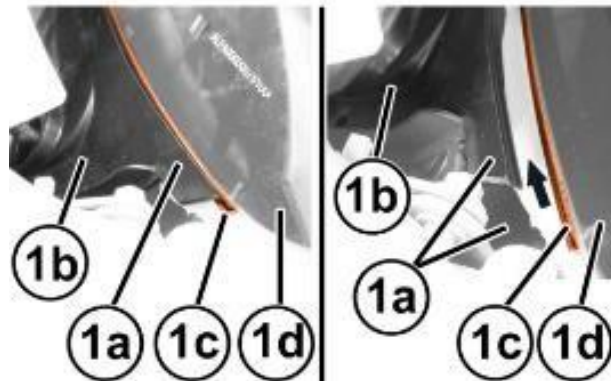

Figure 60 – Windshield Trim
51. Starting from one end (1a) gradually release the windshield base trim (1b) from the retainer profile (1c) along the windshield base (1d) (Figure 60).
CAUTION: Work carefully to avoid damaging the windshield (1d) and the profile (1c) (Figure 60).
52. Keep the windshield base trim (1b) (Figure 60).